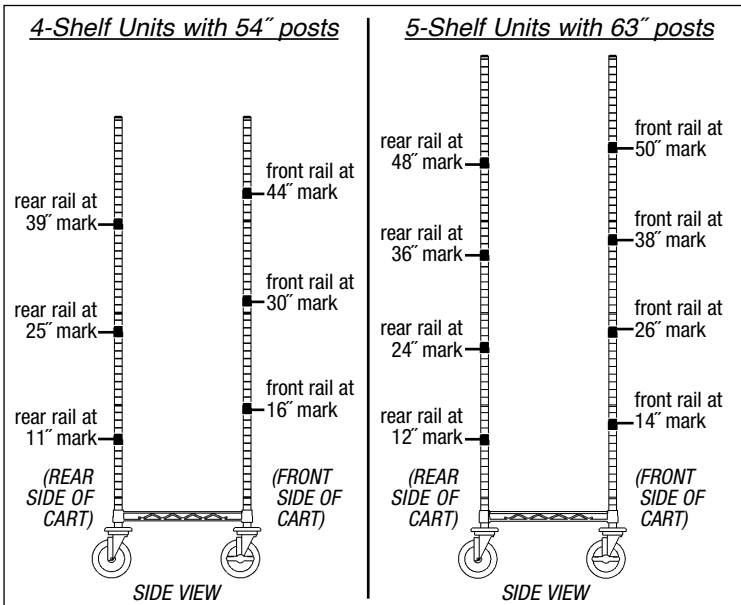

figure 3
- Assemble one rail at a time. Refer to *figure 3* for location of split sleeves and rails. Snap split sleeves onto number on each post (2 sets of split sleeves per rail).
- Repeat *Steps 3a* and *3b* to assemble all rails. Refer to *figure 3* for location of split sleeves and rails.